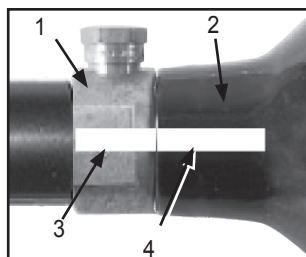

Figure 9: Properly marked Valve and Cylinder
The brass or nickel plated cylinder valve (Figure 9, #1) is intended to be permanently attached to the air or CO2 cylinder (2). An air or CO2 cylinder can fly off with enough force to cause serious injury or death if the cylinder (2) unscrews from a cylinder valve (1).
Refer to Figure 9. There have been reported incidents caused by players unknowingly unscrewing the cylinder (2) from the cylinder valve (1). This occurs when the player thinks the entire valve-cylinder assembly is being unscrewed from the air/CO2 adapter of the paintball marker, when in fact he or she is unscrewing the cylinder from the cylinder valve.
4. Watch the marks on the cylinder and cylinder valve (Figure 9) as you turn the cylinder approximately $\frac{3}{4}$ turn counterclockwise. This allows the air/CO2 valve pin to close so that no air/CO2 will enter the marker.